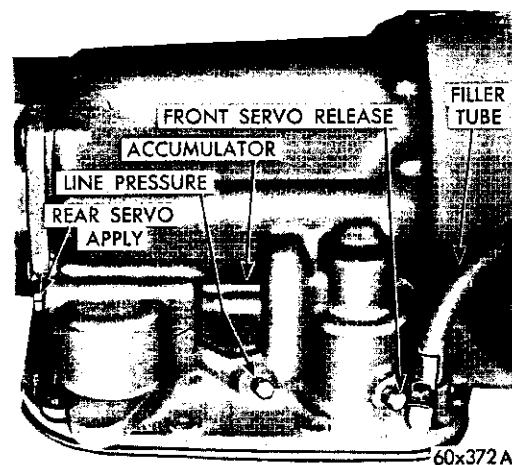

Fig. 26—Pressure Test Locations (Right Side of Case)
(1) Install an engine tachometer, raise car on a hoist and position tachometer so it can be read under the car.
(2) Connect two 0-100 psi pressure gauges, Tool C-3292 to pressure take-off-points at the side of the accumulator and at the front servo release (Fig. 26).
(3) With the control in D (drive) position, speed up the engine slightly until transmission shifts into direct. (Front servo release will be pressurized in direct.) Reduce engine speed slowly to 1000 rpm. Line pressure at this time (1000 rpm) must be 54-60 psi, and front servo release pressure must not be more than 3 psi below line pressure.
(4) Disconnect the throttle linkage from the transmission throttle lever and move the throttle lever to full throttle position gradually. The line pressure must rise to a maximum of 90-96 psi just before or at kickdown into low gear. The front servo release pressure must follow line pressure up to the kickdown point and should not be more than 3 psi below the line pressure.